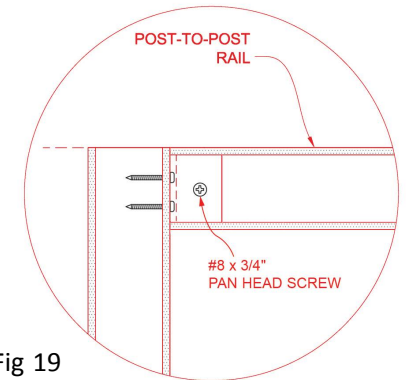
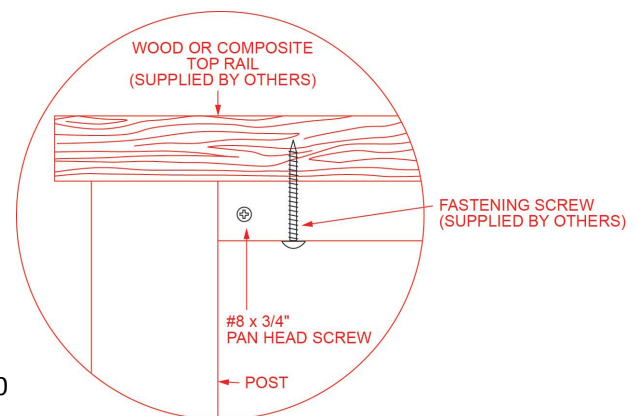

Fig 19
Fig 20
- 1.2 The **POST TO POST RAIL** is then screwed into place by pre-drilling 9/64" pilot holes through the rail into the bracket and securing with x2 #8x3/4" Phillips Panhead Tek 410 SS Screw (Fig 19). A variety of customer supplied top rail wood works well in this application. Usually drilling up from the bottom through the POST TO POST RAIL and screwing into the wood works the best (Fig 20).